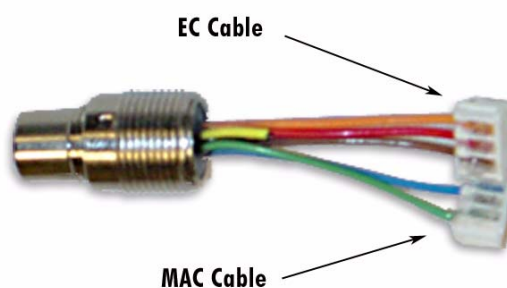

Figure 77 EC/MAC cable connections
- 1 Connect the 6-pin (MAC) end of the EC/MAC Cable (Figure 77) to the 6-pin connector on the sample plate. Connect the other end of the cable to the **EC/MAC** socket on the bottom of the microscope stand.